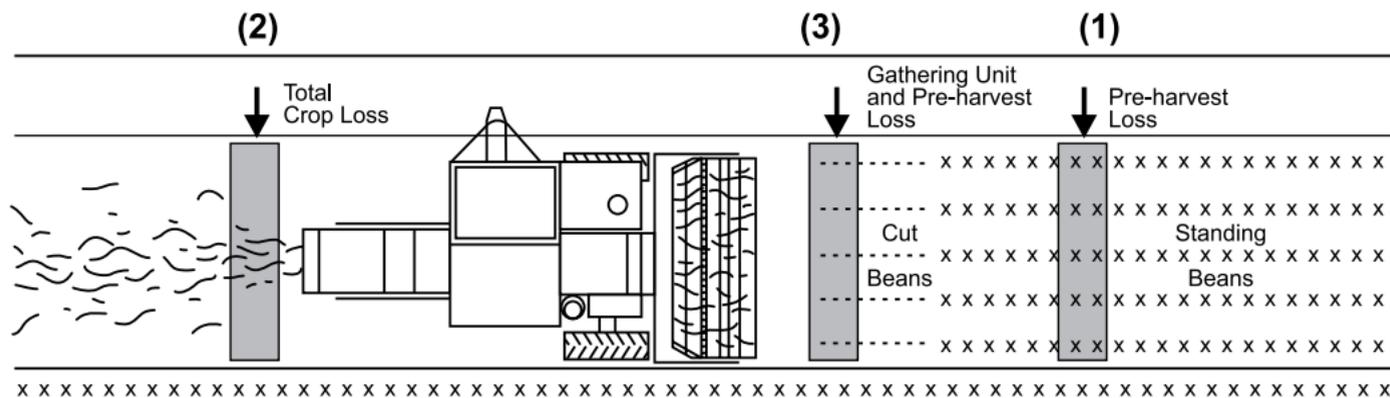

Figure 10. Areas for seed loss counts when estimating soybean harvest losses.
Refer to Figure 10 and record your seed counts in the Loss Table.
8. The four components of *gathering losses* are measured between the combine header and the unharvested crop (Figure 10, location 3). Again, take measurements across the entire width of the header. Enter total counts and the number of sampled areas into the appropriate Loss Table columns.